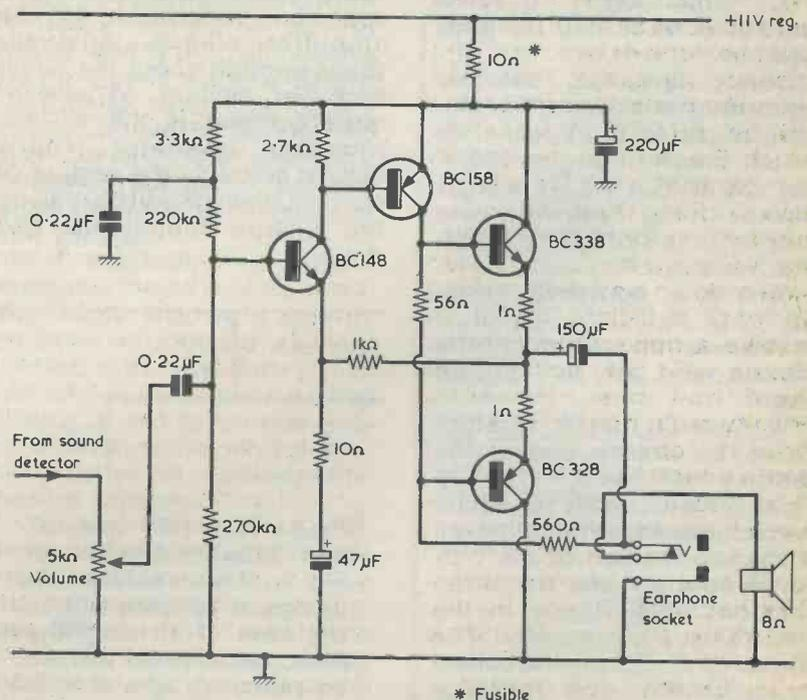

Fig.1. Typical a.f. amplifier section for a television receiver. Inserting a jack plug in the earphone socket mutes the speaker.
walked over to the filing cabinet. The service manual for the set was in stock and he returned to his bench, studying its circuit diagram. Laying the manual down on the bench, he concentrated on the audio amplifying section. (Fig.1.)
Fig.3. The 10Ω resistor and 220μF capacitor of Fig.1. The resistor is designed to burn out in the case of an amplifier fault, and should always be replaced by a similar component. The 220μF capacitor provides a low supply impedance across the a.f. amplifier.
**Fig.4. Vertical timebase oscillator employing a multivibrator to discharge a shaping capacitor during flyback. The slowly increasing voltage across the capacitor is applied to the vertical output stage, which drives the vertical deflection coils. This diagram and Fig.1 are slightly simplified versions of monochrome TV circuits encountered in practice.**